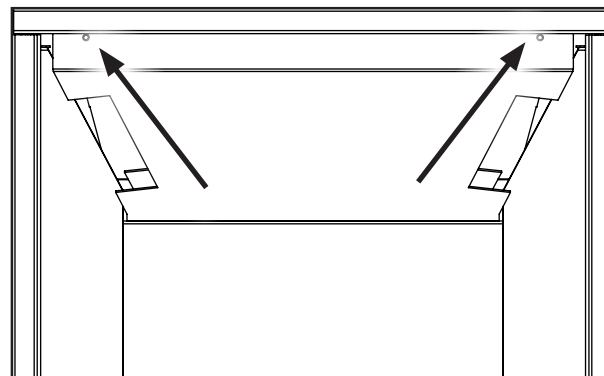

Figure 60. Top Panel Screws.
8. Install the top porcelain panel by screwing it to the firebox baffle as show in Figure 60 using the supplied screws.